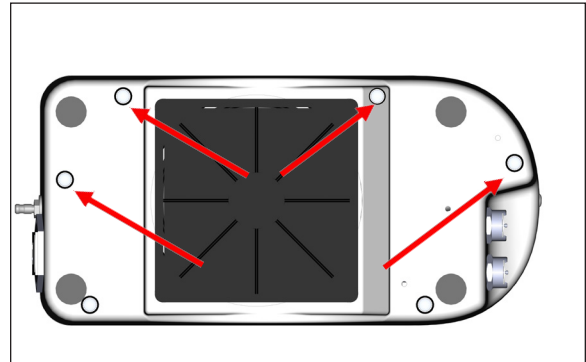

Figure 26 - Step 2 Remove four screws
2. Place the unit on its back. Remove the four screws in the base (Figure 26). Do not discard the screws.